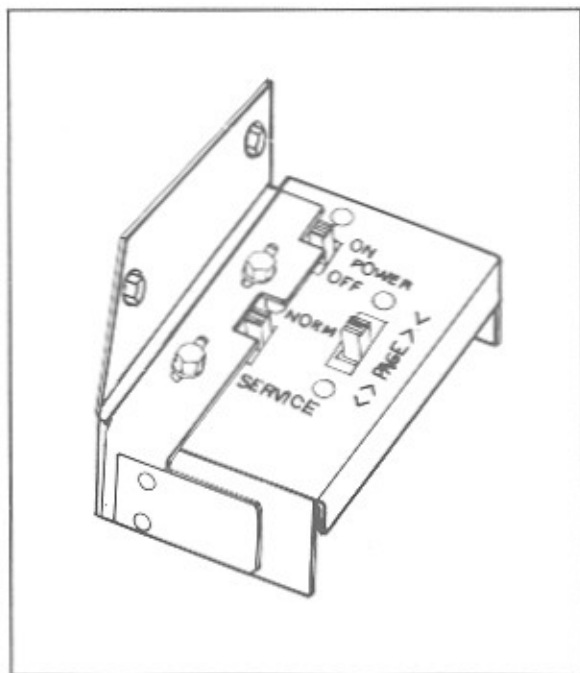

Figure 3-2. Service Switch
1. Open the top door and place the SERVICE switch (figure 3-2) in the SERVICE position. The phonograph display will say * SERVICE MODE *.
2. Move the SERVICE switch to the SERVICE position, if not already done (refer to figure 3-2).